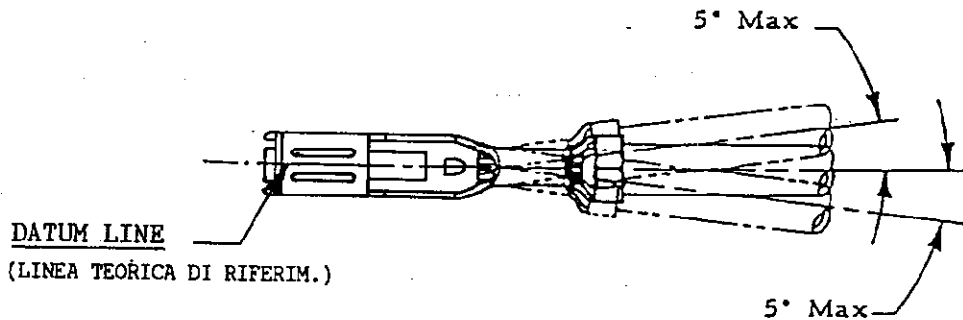

Figure 3
- (2) The side to side bending of the contact shall not exceed the limits specified in Figure 3. (IL TERMINALE, AD AGGRAFFATURA AVVENUTA, NON DEVE RISULTARE PIEGATO, LATERALMENTE LATO DESTRO E/O SINISTRO, OLTRE I LIMITI RIPORTATI IN FIG. 2)